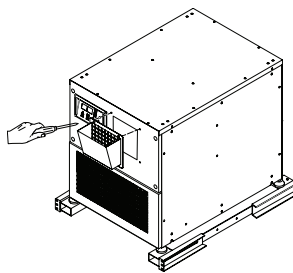

Figure 12 - rack diffuser attachment
3. Use screws (enclosed inside of box with rack diffuser) on the unit as shown in Figure 12.